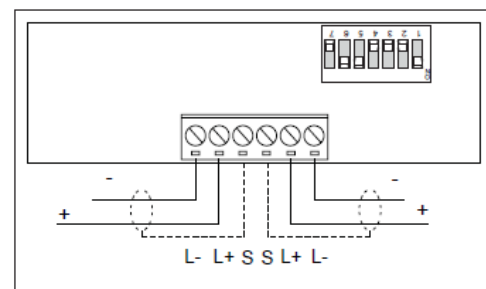

Figure 3.
2. Run the cables from the loop into the backbox and connect them to the terminal block as shown in Fig. 3. Ensure that functional earth/screen continuity is maintained.